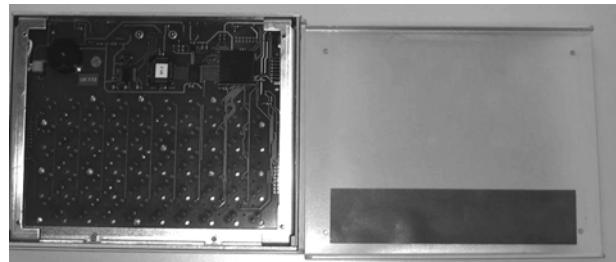

Figure 130: Fitting the handheld terminal back cover
6. Ensuring that the insulation strip at the bottom is opposite the signal cable connection (see Figure 130), press the rear cover back onto the front part of the handheld keypad and tighten the four screws.